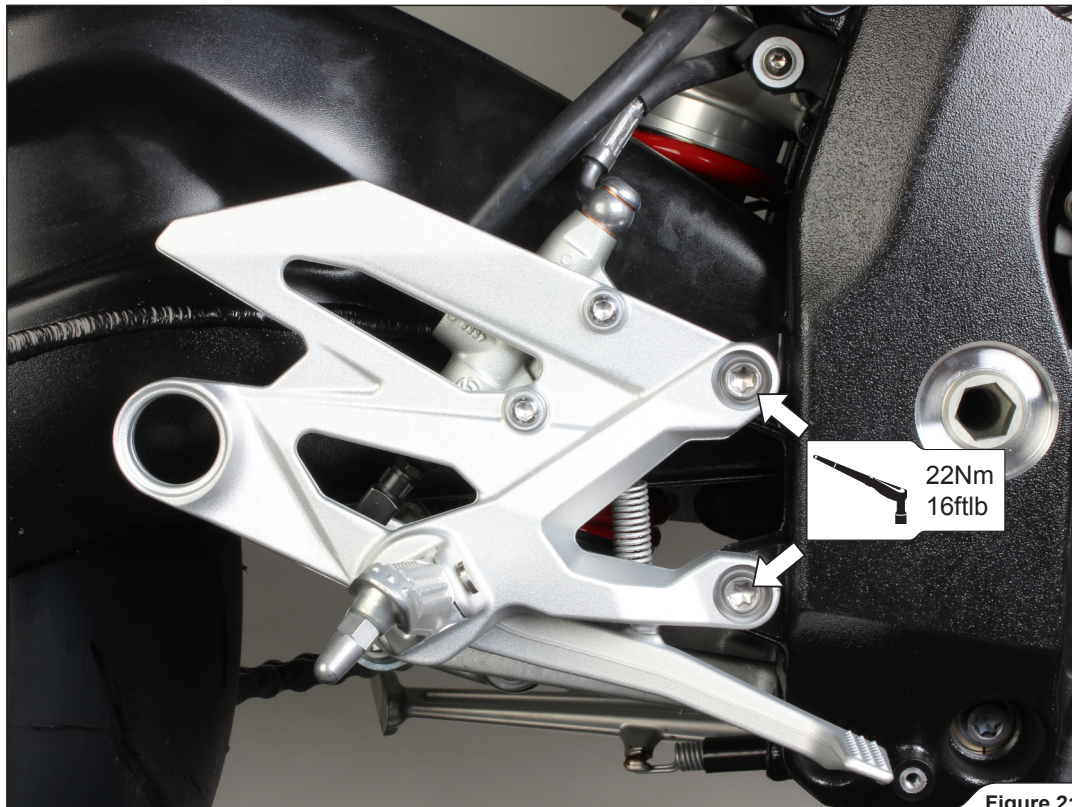

Figure 21
16. Reinstall the right foot peg (Figure 21).